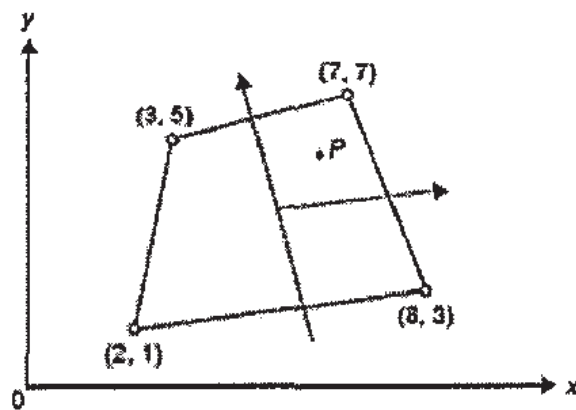

Fig.7
- b)** Determine the Cartesian coordinate of the point P($\xi = 0.5$, $\eta = 0.6$) shown in Fig 7 [6]